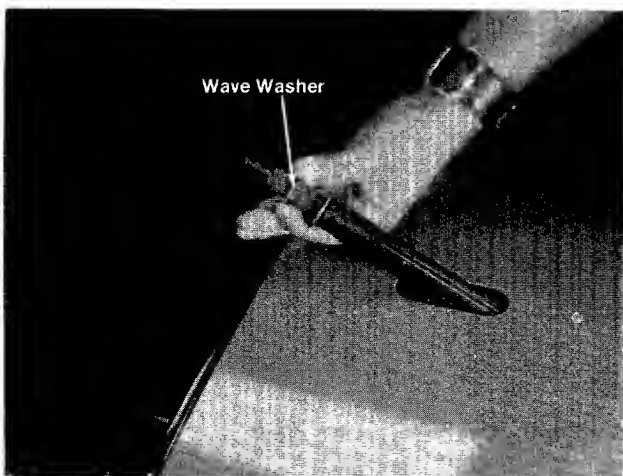

FIGURE 8.
5. Place wave washer, steering wheel, belleville washer over end of steering shaft and secure with hex nut, using a 1/2" wrench. See figures 8 and 9.